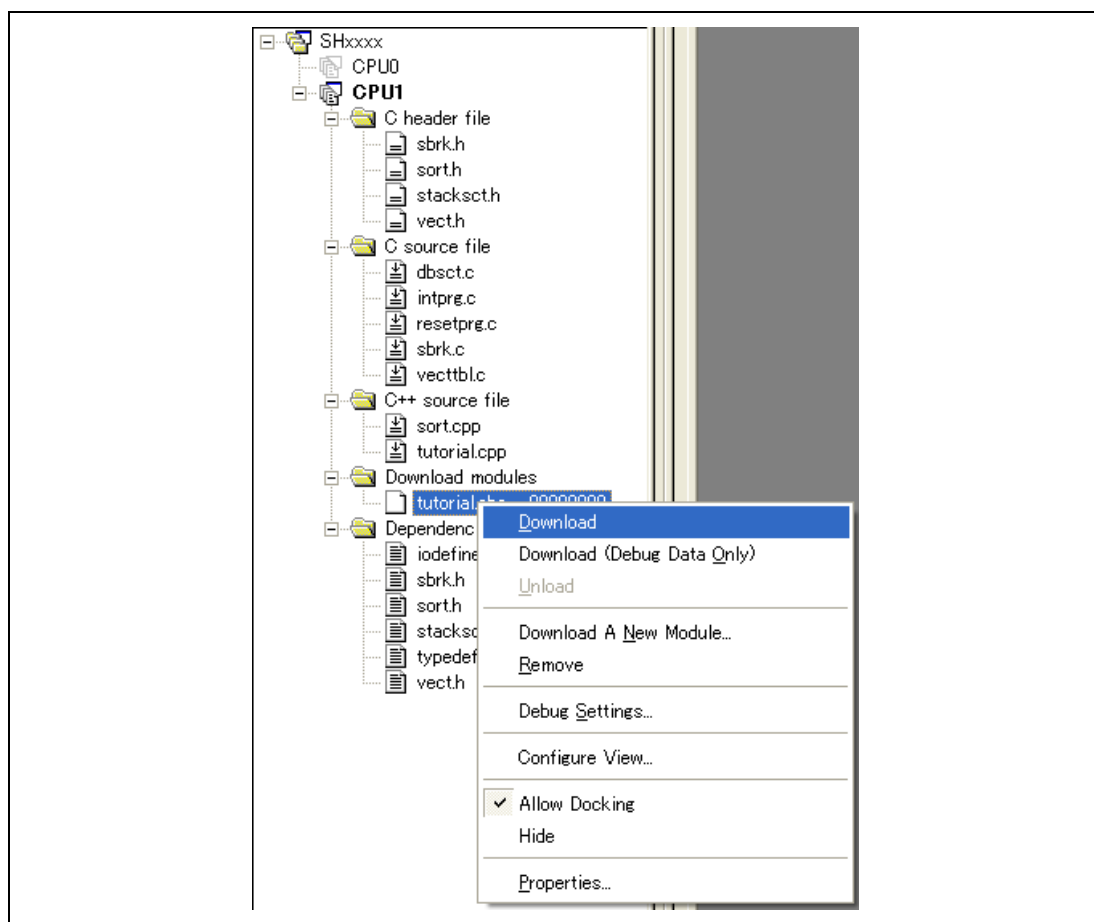

Figure 6.8 Downloading the Tutorial Program
2. If program execution is failed, select [Reset CPU] from the [Debug] menu, reset the device, and restart the procedure from figure 6.8.